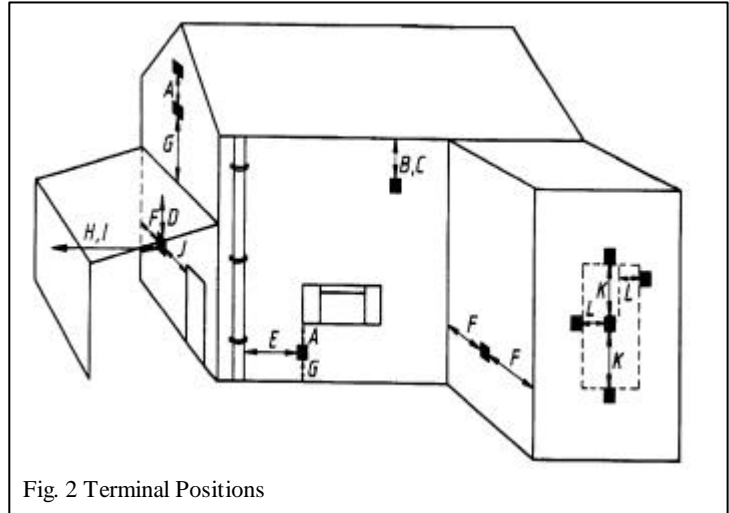

Fig. 2 Terminal Positions
**2.12** Minimum allowable distances from the terminal are shown in figure 2 and table 1:-